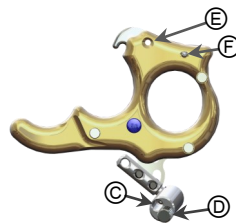

Figure 3
- **Never adjust screw F as identified in Figure 3.**
To adjust the angle of the knob, loosen (counter clockwise) the set screw in the thumb knob noted as item C in Figure 3. The knob will rotate semi freely. Rotate the knob about the trigger post and orient it to your liking. It is not important that the thumb knob be perpendicular to the release aid, in fact, most prefer a slight angle. When you have found the setting you prefer, tighten the set screw to secure the knob in place.
The Trainer Lock™ pin is a training and practice aid that allows you to safely draw your bow confident in the knowledge that it will not go off unintentionally. The pin interferes with the free movement of the hook while allowing the rest of the mechanism to function normally. When the Trainer Lock™ pin is installed, you will hear the click of the mechanism when you activate it but the hook will not open. To install the Trainer Lock™, remove it from its storage space identified in Figures 3 and 4 as D and screw it into the hole noted as E. The side you install it in depends on your comfort as a left or right handed archer.